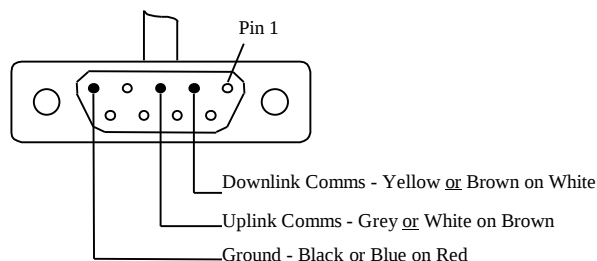

Figure 62. STMON PC Connection
3. PC Interface	1. STMON for Windows communicates via the PC RS232 com port which connects to the ST to Service Interface Unit. The PC interface cable is terminated as in Figure 62.